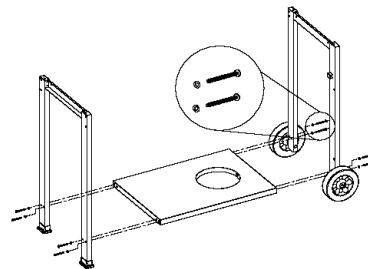

Figure 3
3. Assemble cart leg to bottom panel using (8) 1/4 x 1-1/2" Phillips head screws with (8) 1/4" lock washers for both legs. (Fig.3)